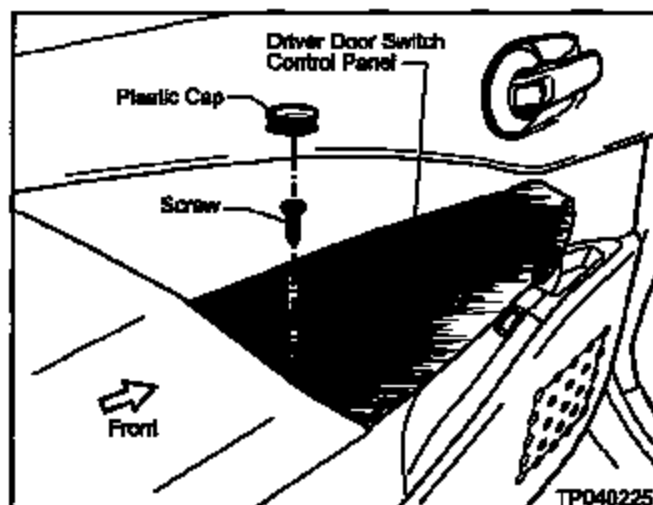

Figure D1
- a. Remove the Plastic Cap and Screw from the Driver Door Switch Control Panel (see Figure D1).